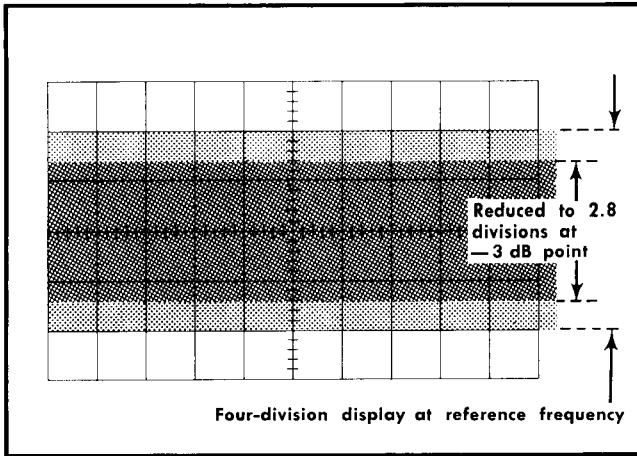

Fig. 5-9. Typical CRT display when checking vertical frequency response.
e. Without changing the output amplitude, increase the output frequency of the generator until the display is reduced to 2.8 divisions (-3 dB point; see Fig. 5-9).
- d. Without changing the output amplitude, increase the output frequency of the generator until the deflection is reduced to 2.8 divisions (−3 dB point; see Fig. 5-9).
- j. Without changing the output amplitude, increase the output frequency of the generator until the deflection is reduced to 2.8 divisions (−3 dB point; see Fig. 5-9).
- e. Without changing the output amplitude, increase the output frequency of the generator until the deflection is reduced to 2.8 divisions (−3 dB point; see Fig. 5-9).